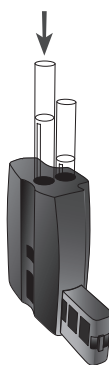

fig.3
3. Fill a test tube to the 10 mL line with sample water. Insert it in the rear hole on the top of the Low Range Comparator (fig.3).